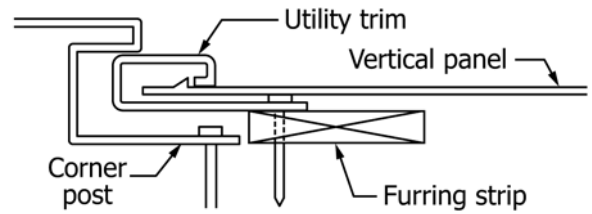

FIG. 29 Corner Installation with Panel Cut on Flat Surface
10.13.2 If the panel is cut on the flat surface, place a piece of undersill trim, backed by furring, into the receiver of the corner post. Punch snap locks along the cut edge of the panel at 6-in. (152-mm) intervals and snap it into the undersill trim. (See Fig. 29.)